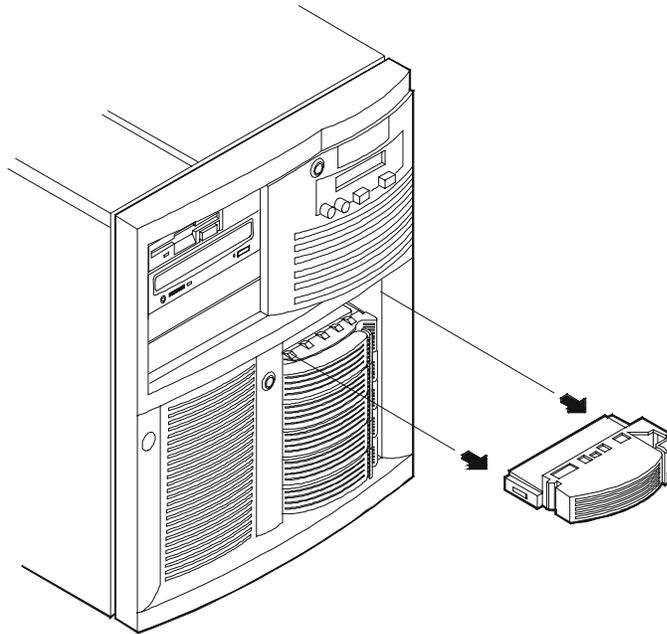

Figure 4-5. Hot-Swap Drive and Filler Panel
- c. Using your fingers, pull the blue filler panel straight out (see Figure 4-5).